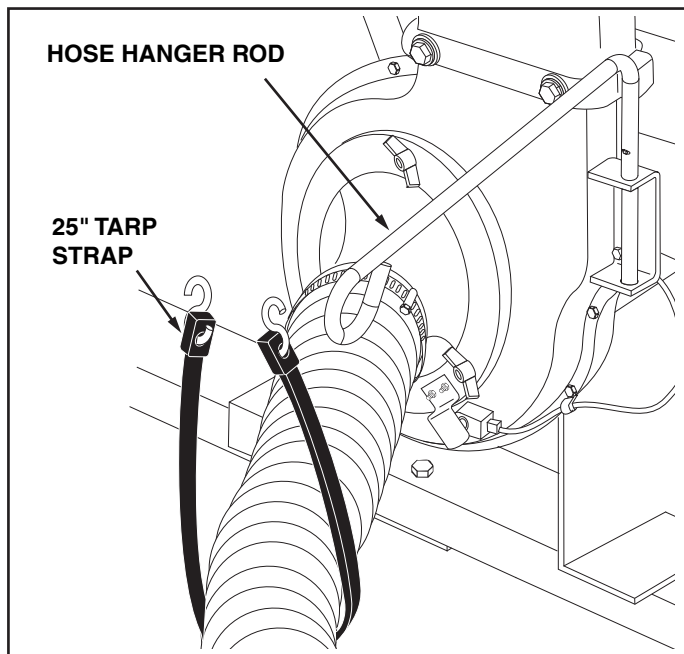

FIGURE 12
- Loop the 25" tarp strap under the hose. Fasten the hooks to the hose hanger rod. See figure 12.